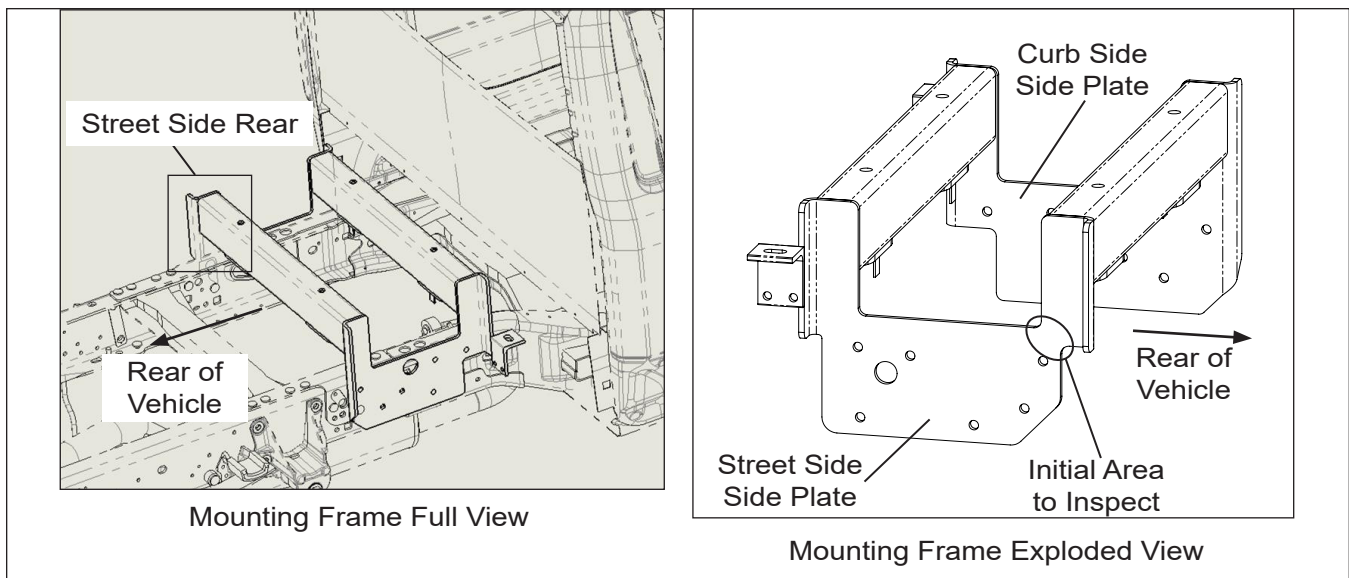

Figure 1 – Mounting Frame Initial Inspection
3. Find the mounting frame under the vehicle (refer to Figure 1). Determine the orientation of the mounting frame.
5. Using a flashlight, inspect the outer surface and the upper and lower rounded corners of the narrow section of the side plate (refer to Figure 1) for the extent of any cracking in the steel plate.